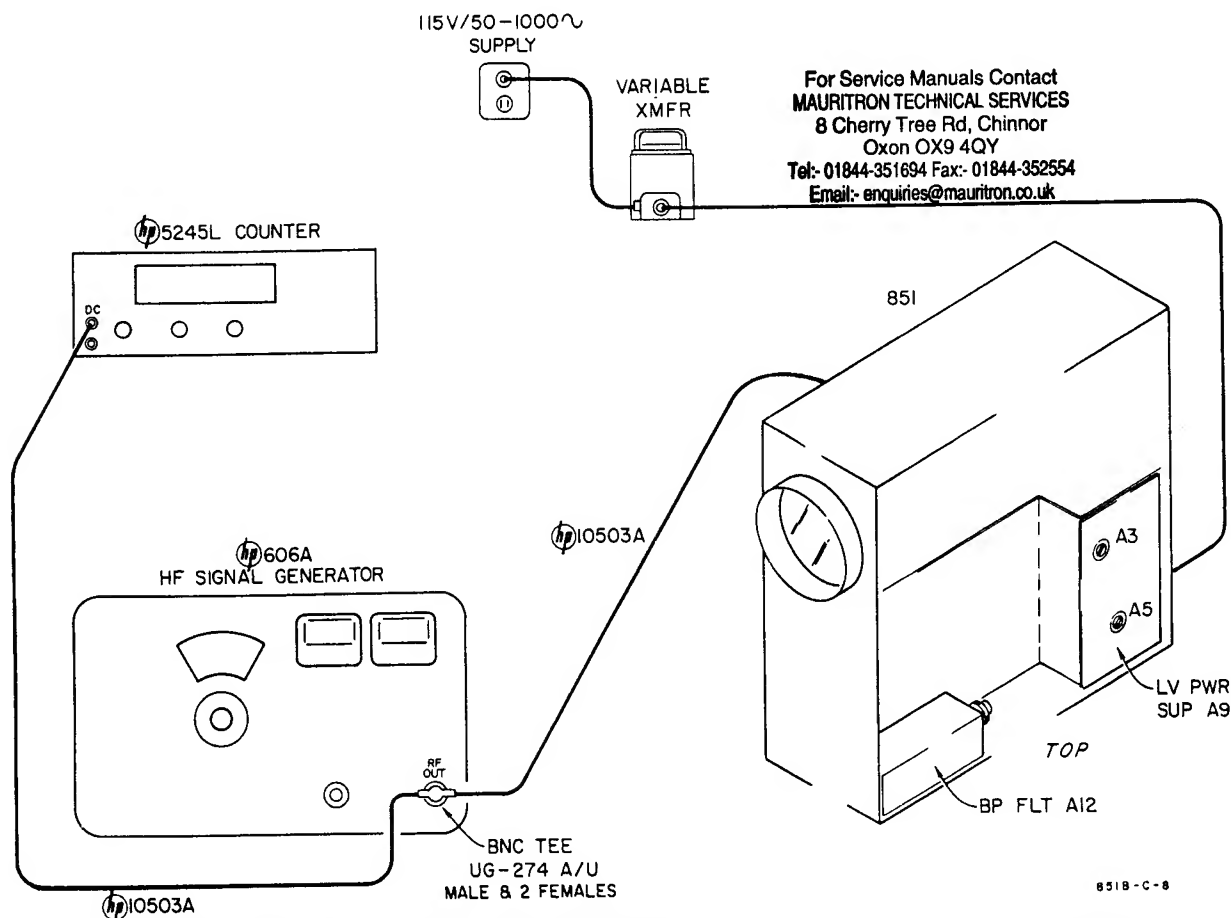

Figure 5-7. Measurement Setup, 1MC and 100KC I. F. Bandwidth Alignment and Checks
a. Setup. See Figure 5-7. Casting which houses RF Circuit Assembly A2 is on bottom of 8 and that which houses Bandpass Filter Assembly A2 is in top of 851, on right side near front panel. Both are required in this procedure. Local Assemblies and adjustments are called out.
a. Use setup indicated in Figure 5-7. 100KC Band-pass Filter Assemblies A3 and A5 are located toward rear of 851 on right side, beneath Low-Voltage Power Supply A9; access to adjustments A3L1 and A5L1 is through holes in the A9 Board; see Figure 5-36.